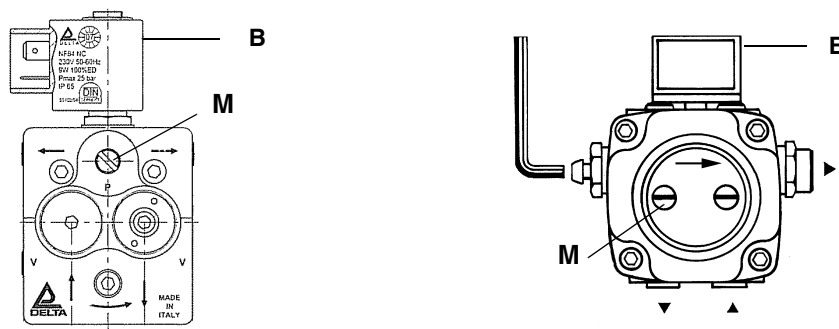

Fig. 9
- 5 bleed the air from the **M** pressure gauge port of the pump (**P**), slightly loosening the cap and without removing it (Fig. 9);